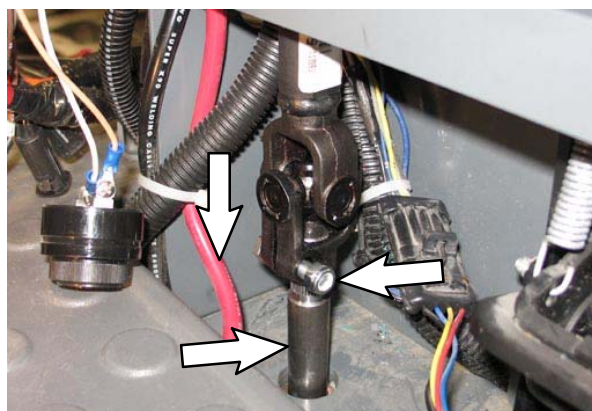

FIG. 17
33. Reinstall the steering shaft onto the lower steering shaft and tighten the previously loosen hardware to secure the steering shaft to the lower steering shaft. (Fig. 17)